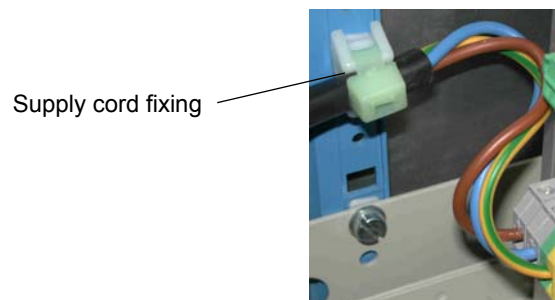

Figure 8-1 : Main supply cord fixing
- The non-detachable DC-mains supply cord has to be mounted using a handler as shown in Figure 8-1.